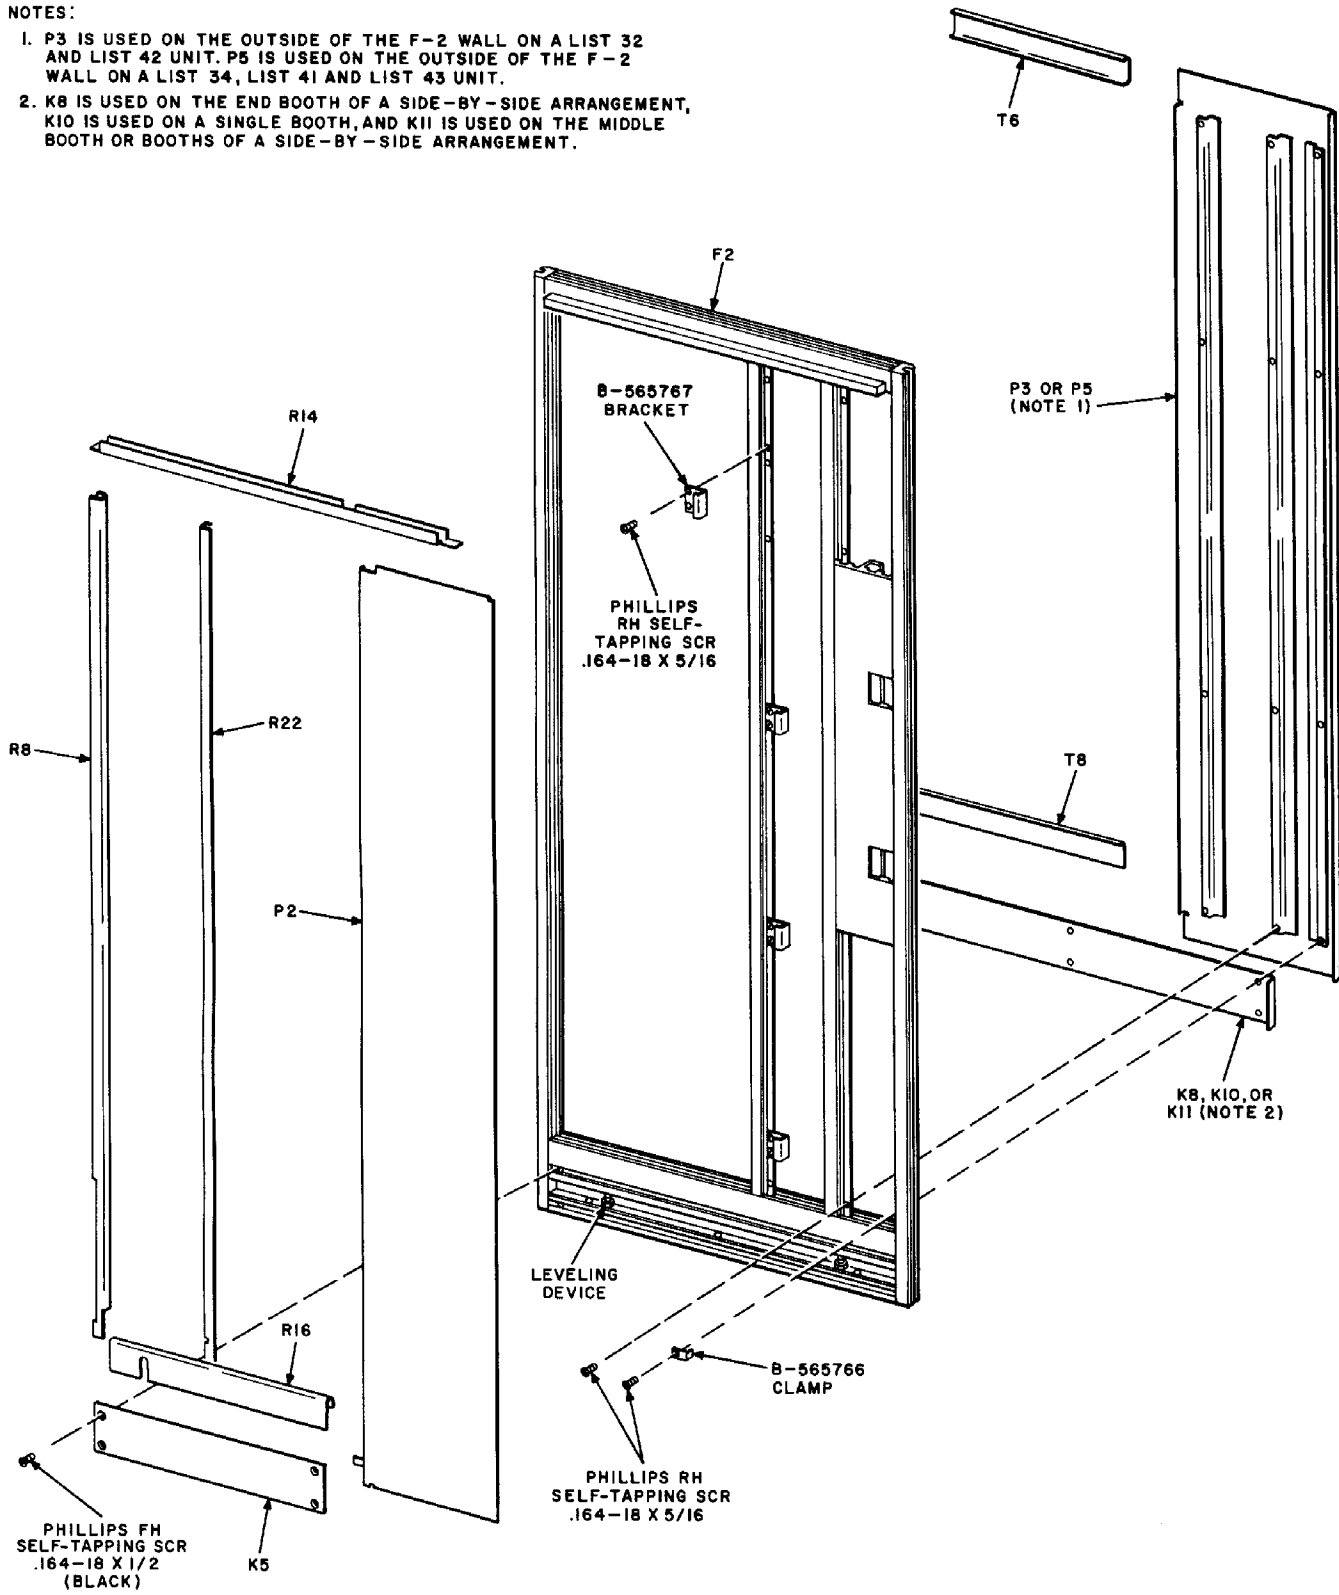

Fig. 15 — F-2 Wall
- (x) Install four B-565767 brackets (Fig. 15) on the center column of the rear wall using eight .164-18 by 5/16 unpainted Phillips round head self-tapping screws.
- (y) Install P3 panel (Fig. 15) using four B-565766 clamps and twelve .164-18 by 5/16 unpainted Phillips round head self-tapping screws.
- (af) Install P2 panel (Fig. 15), using Fig. 6 as a guide. Secure P2 to wall using two .164-18 by 3/8 unpainted Phillips round head screws.
(j) Install four B-565767 brackets (Fig. 15) on the center column of the F-2 wall using eight .164-18 by 5/16 unpainted Phillips round head self-tapping screws.
(k) Install P5 panel (Fig. 15) using four B-565766 clamps and twelve .164-18 by 5/16 unpainted Phillips round head self-tapping screws.
(l) Install K11 outside kickplate (Fig. 15) using six .164-18 by 1/2 painted Phillips flathead self-tapping screws.
(s) Install K5 inside kickplate (Fig. 15) using four .164-18 by 1/2 painted Phillips flat-head screws.